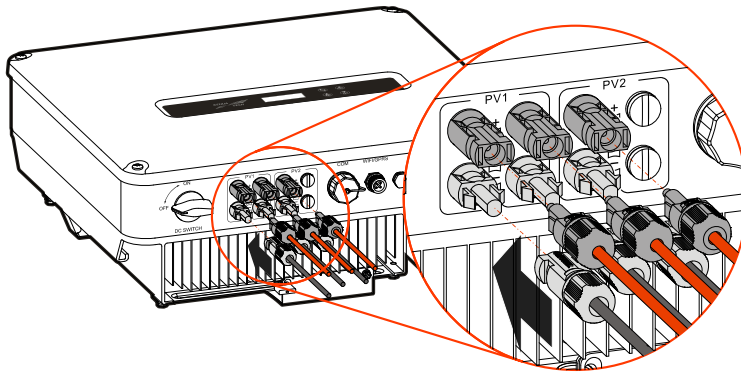

Figure3-21 Connect the PV connector
- Step 6 Insert the positive connector and negative connector to the PV + and PV – terminals (as shown in Figure3-21) and tighten them. If there has a click sound, it means that the connector have been inserted properly.